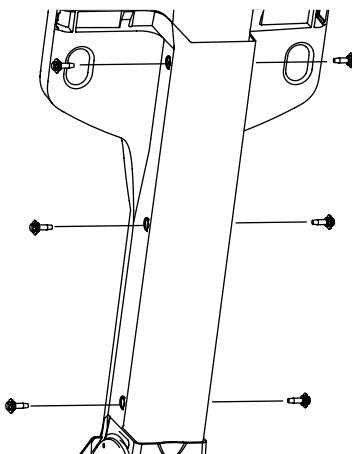

Figure 6
4. Secure the console in place with the six shoulder screws. See Figure 6. Torque the shoulder screws to 60 in/lbs (+/- 20%).